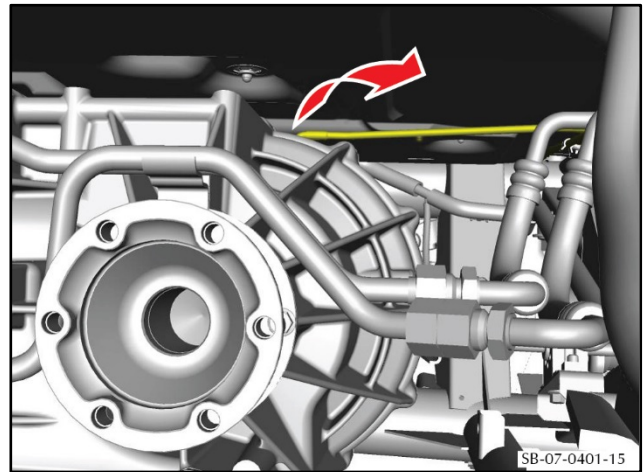

Figure 17
26. Disconnect the breather pipe from the transaxle and move the pipe away (refer to Figure 17).